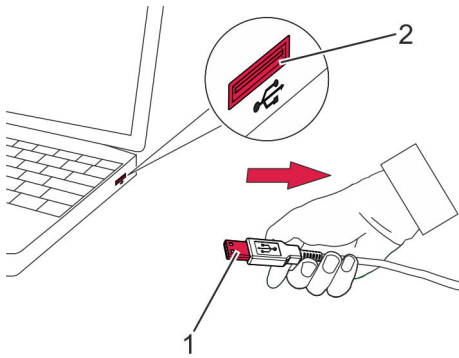

Fig. 23: Device shutdown
4. ➤ Remove the USB cable (Fig. 23/1) from the USB port of the PC or tablet computer (Fig. 23/2) by the USB plug.